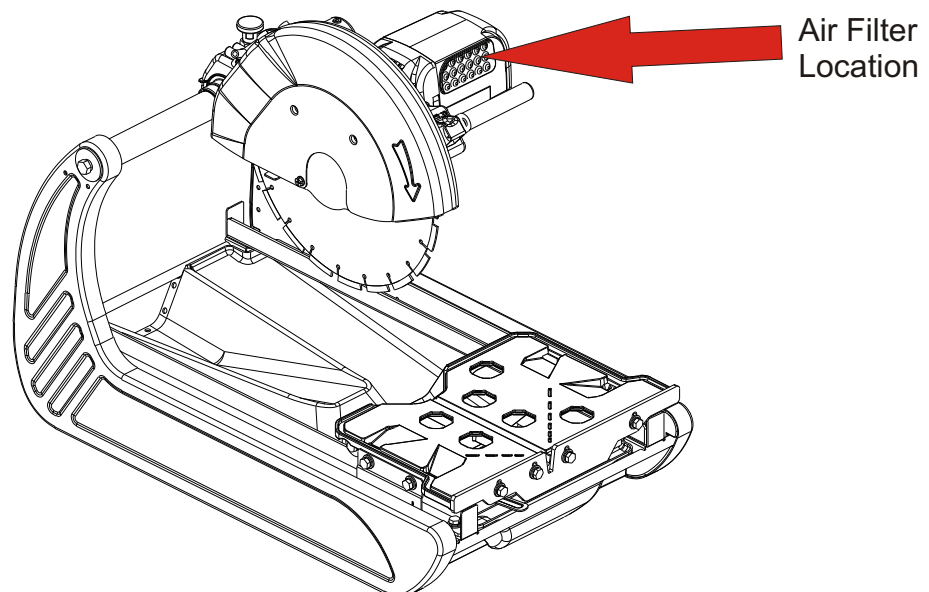

Figure 5-1: Air Filter Location
1. Carefully remove the Air Filter from the Motor Air In-Take Cover opening. Do not tear or damage the Filter (see Figure 5-1: Air Filter Location).